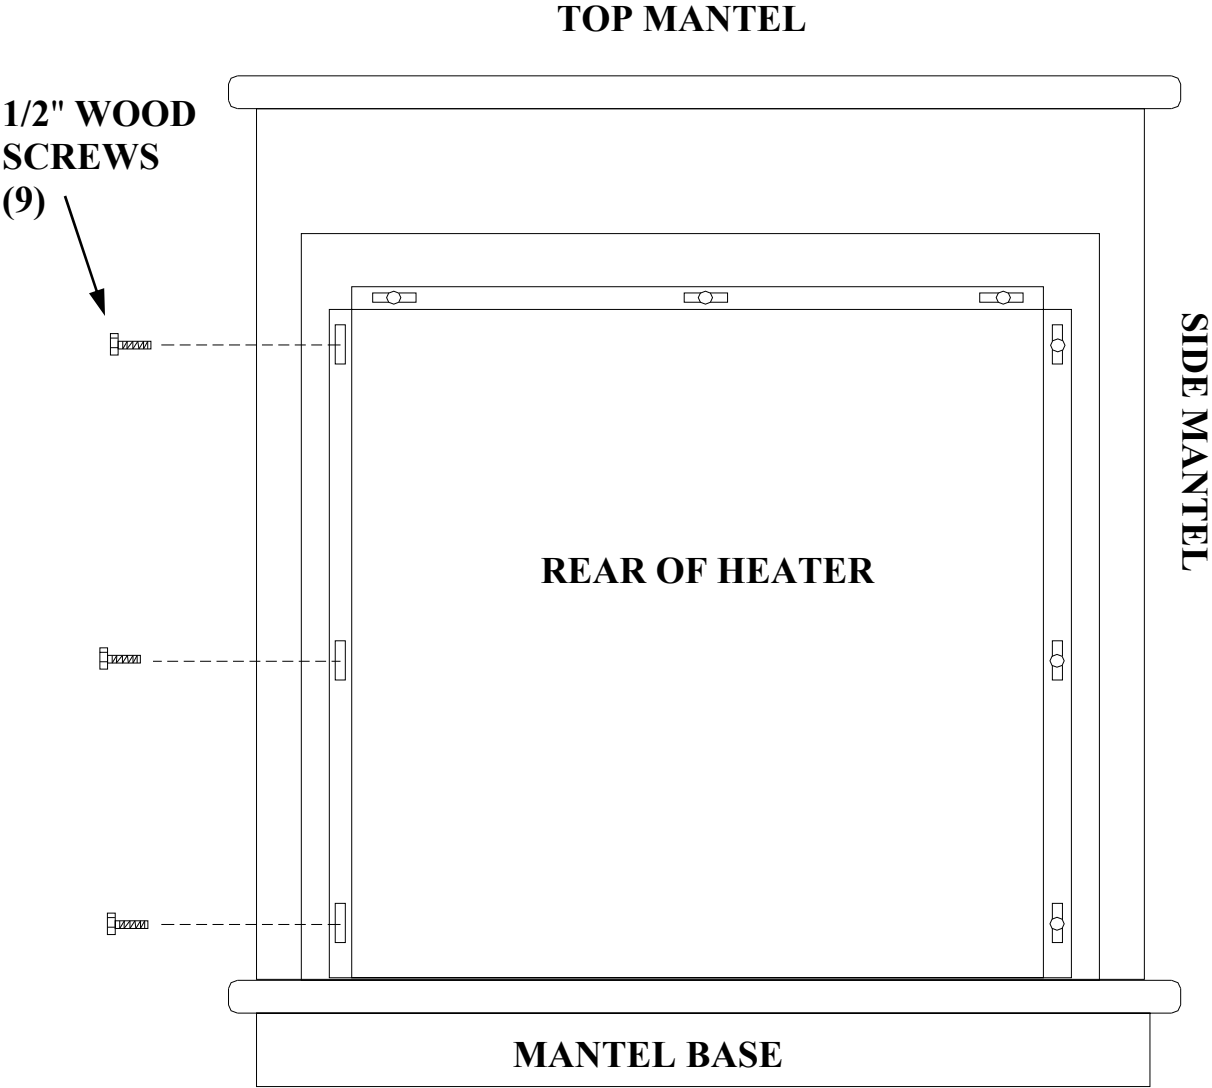

FIGURE 6
(2) Screen(s) can not be removed or altered (Position screen(s) in the closed position before leaving heater unattended).
(3) Follow instructions for assembly of (Optional) Wooden Mantel. See instructions supplied with mantel.
(4) After mantel has been assembled, slide the heater from the rear into the opening of the mantel.
(5) Center the heater in the opening of the mantel. See Figure 6.
(6) Fasten mantel to hearth by using 1/2" wood screws.
(7) Insert the nine (9) wood screws provided with mantel through slots on nailing flange and secure in place. See Figure 6.
(8) Position mantel and fireplace into desired location.
(9) Now you are ready to position the log set.
(10) To light the heater, see “Lighting Instructions” pages 21 through 28. Make sure you have the right gas valve for Natural or LP gas.